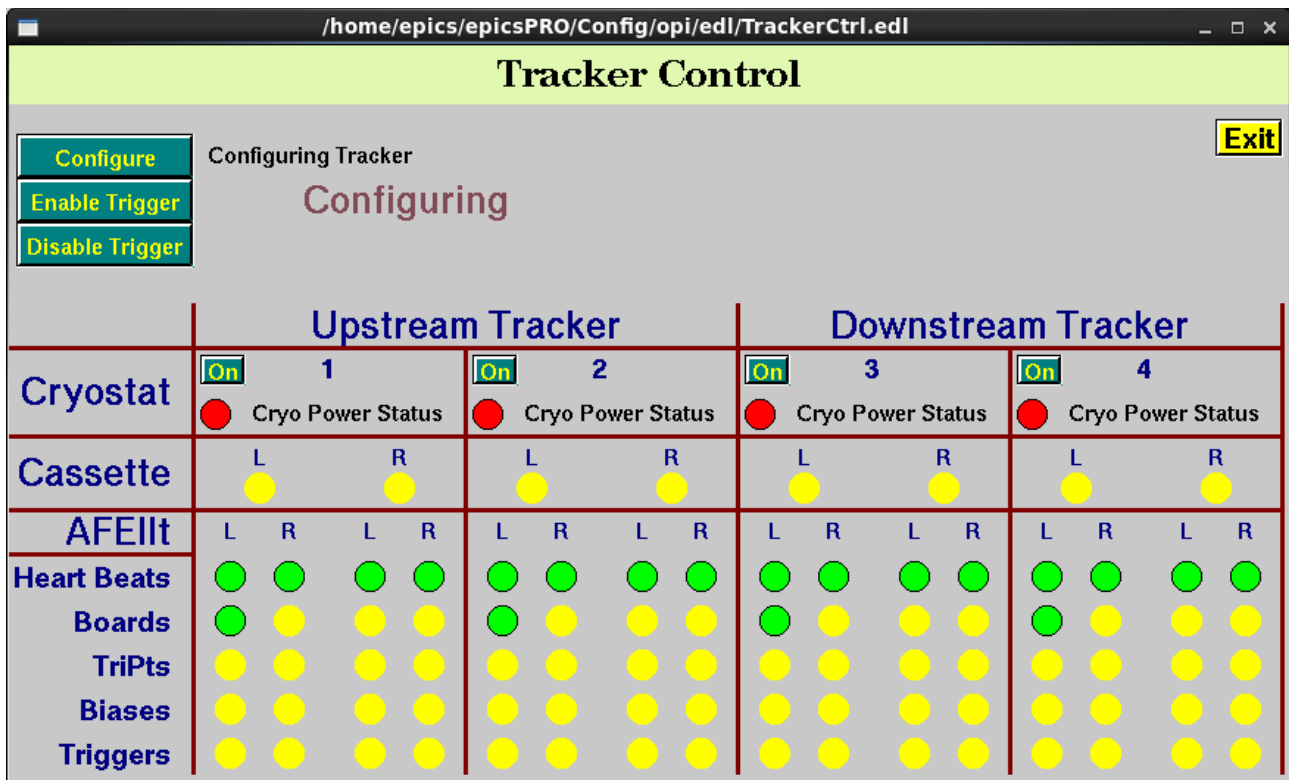

Figure 3: All boards alive and beginning configuration the left hand boards of the left hand cassette.
2) If the rows containing Boards/Biases/TriPts/Triggers are Yellow, then these parts of the boards need configuring. Click the configure button to start the configure process. A green configured light should begin on Boards for the left side of each cryostat and move downwards. Once the whole column is configured, the software will proceed on the next board to the right. See Figure 3 for an example of the first boards completing configuration. The process should take ~ 10 minutes.